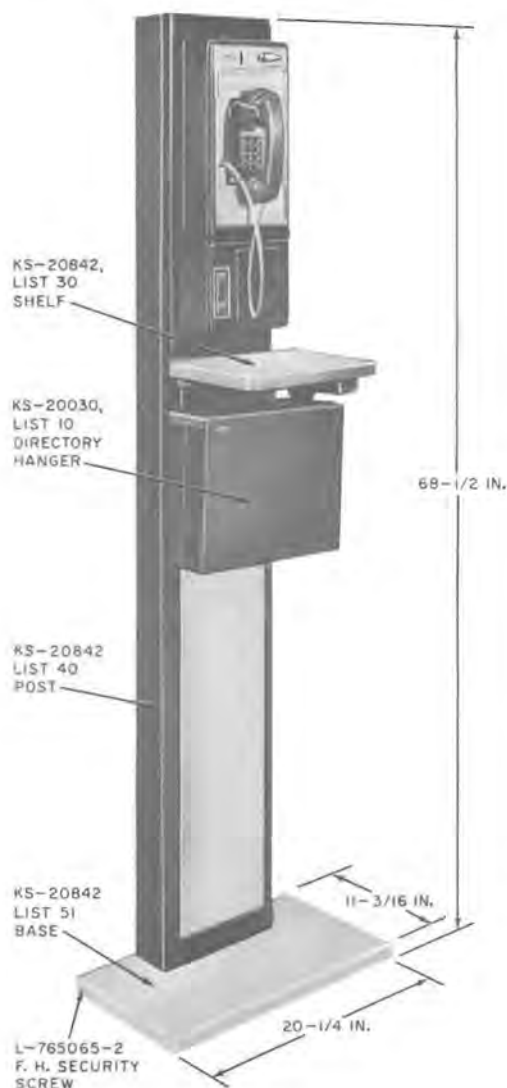

Fig. 2—KS-20842, List 2 Telephone Mounting
2.11 *List 51 short base* (Fig. 2) mounts the post assembly flush with the back of the base to permit a next-to-wall or back-to-back pedestal installation. The base is 20 inches long, 11 inches wide, 7/8-inch thick, and weighs approximately 55 pounds. Eight mounting holes and only one cover are provided with the short base.
2.15 A List 30 shelf assembly (Fig. 2) is to be used indoors only and when the List 31 housing is not provided. The shelf mounts on front of post below the recessed telephone. Made of stainless steel, the shelf is approximately 13 inches wide and extends 8-3/4 inches from post.
2.23 A directory hanger may be used with each telephone mounting. The KS-20842, List 30 shelf will accept a KS-20030, List 9 directory hanger (Fig. 2) and the KS-20842, List 31 housing will accept a KS-20030, List 10 directory hanger. Each hanger must be ordered separately.